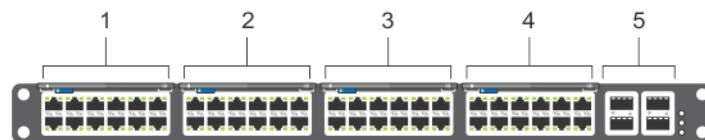

Figure 2. S5000 I/O Panel
- Identify slots 0, 1, 2, and 3 on the I/O panel, refer to Figure 2. You can insert a Unified Port module only in slot 0. You can install the Ethernet modules in slots 0, 1, 2, and 3.